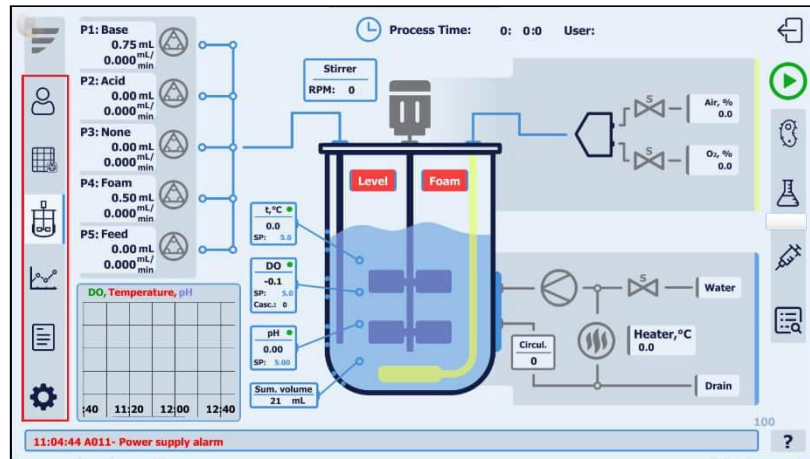

Figure 5.2. REACTOR window
- 2) The REACTOR window will appear, see Figure 5.2. More detailed information about the functionality of this window is given in Section 5.3: "REACTOR WINDOW";